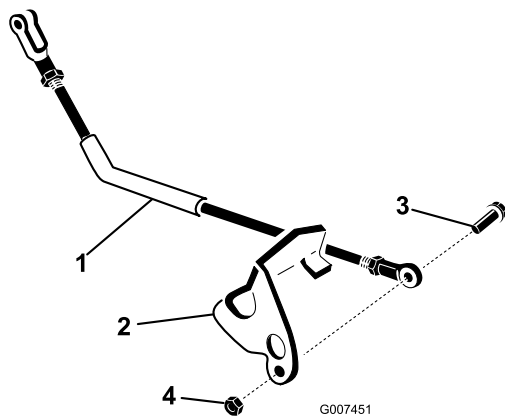

Figure 8
6. Mount the ball joint end of the threaded rod to the pedal with a screw (3/8 x 1-1/4 inches) and flange nut (3/8 inch) (Figure 8).